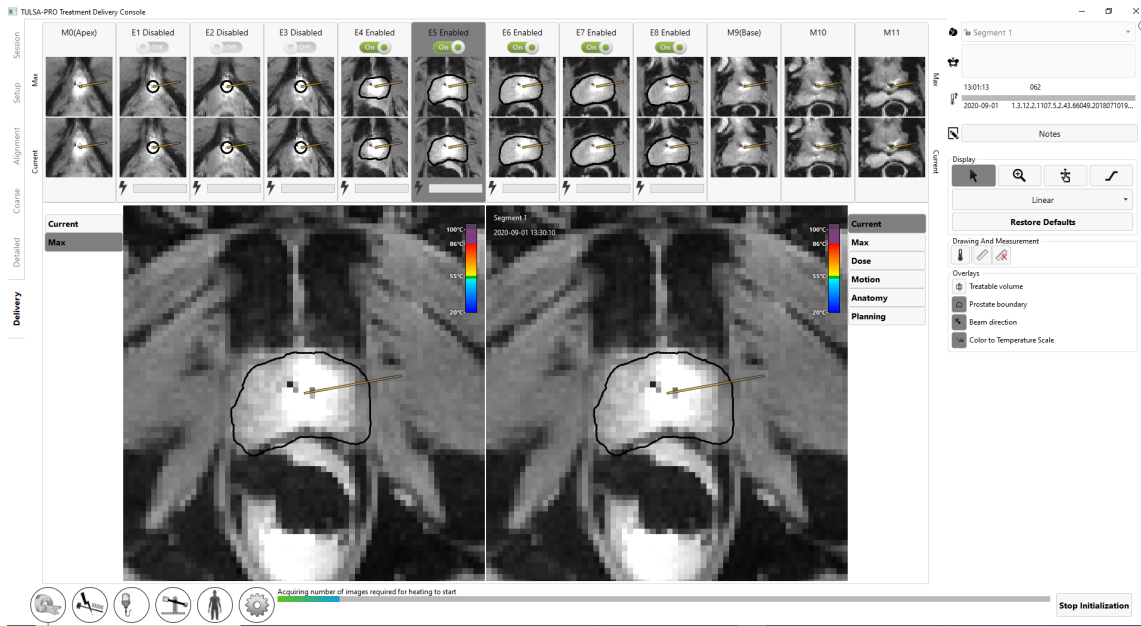

Figure 41: Treatment Initialization state
2. Radiologist: Click **Start treatment** on TDC. It will prompt you to verify the core body temperature using an external temperature measurement device before proceeding (10). Enter the temperature in degrees Celsius and click **Confirm**. The TDC will go into **Treatment Initialization** state and is now ready to receive thermometry images (Figure 41).